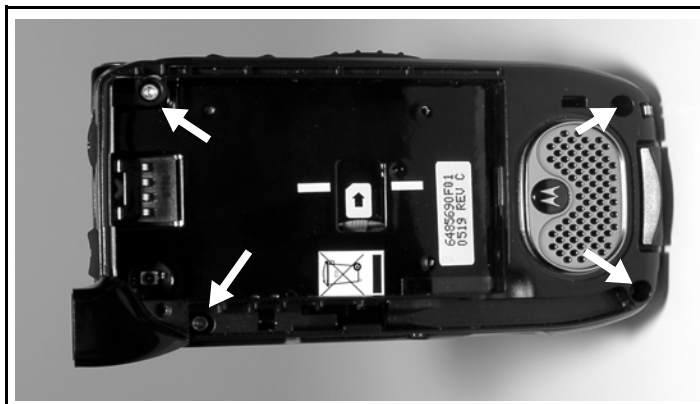

Figure 7-5.
1. Remove four T-6 screws—one in the metal tube channel (see Figure 7-5).